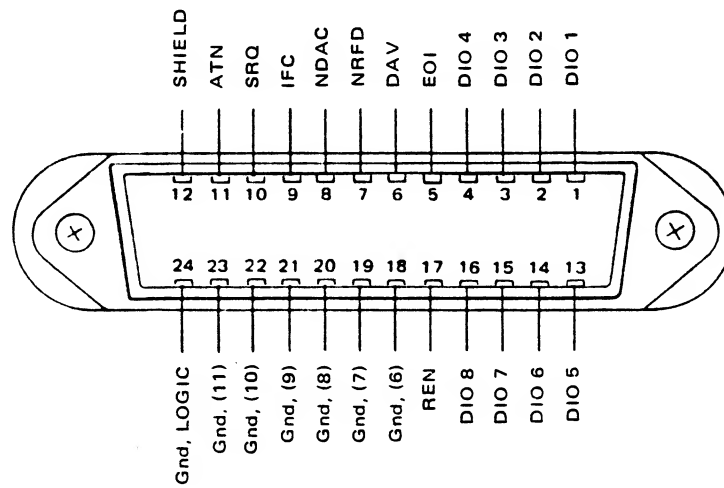

Figure 2.4 - GPIB Connector (Rear Panel)
2.5.3.1 When Option 55 is installed the instrument is equipped with a General Purpose Interface Bus connector for connection to a system. The pin-signal assignments for this connector are illustrated in Figure 2.4. This connector is configured to conform to the IEEE-488-1975 Standard Interface Specification.